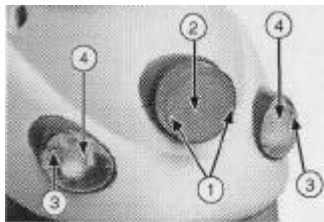

Fig. 27
C) REAR LIGHT AND REAR INDICATORS (FIG. 27)
1. Remove the screws (1 -FIG. 27) for the rear light or the screws (3 -FIG. 27) for the rear indicators.
2. Remove the glass shields (2-4 -FIG. 27).